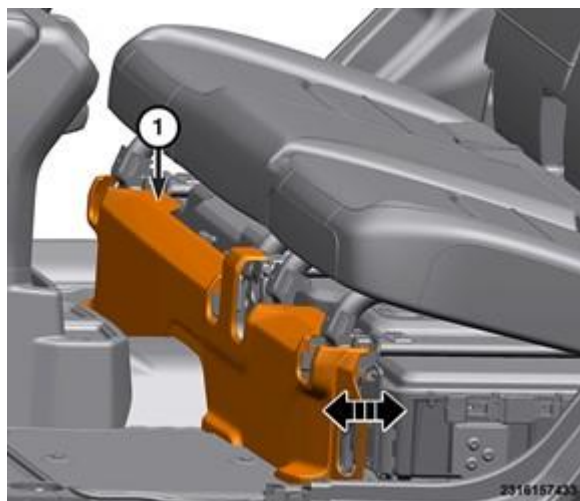

Figure 18 – HV Battery Front Trim
- 28. Using a trim stick or equivalent, release the retainers from the front high voltage battery closeout and remove from vehicle (Figure 18).
62. Align and install the retainers from the front high voltage battery closeout to the vehicle (Figure 18).